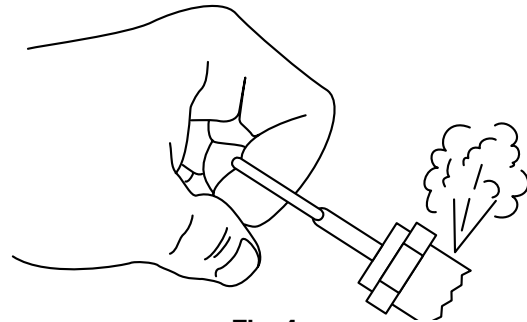

Fig. 4
2. Ensure safety valve is functioning properly by pulling on the valve ring and allow the valve to reset (see Fig. 4).